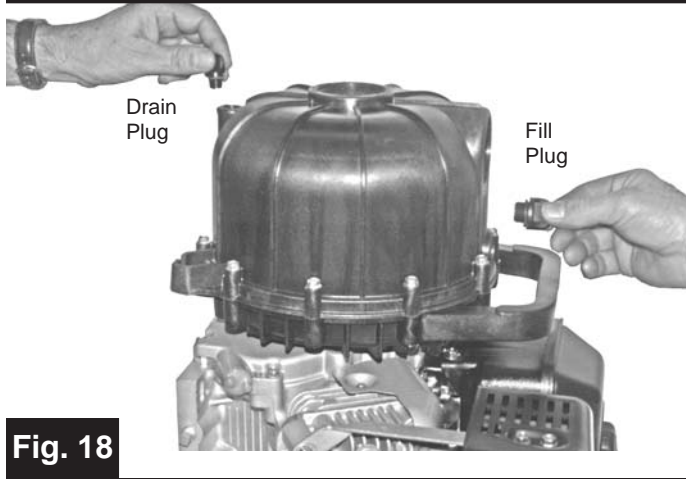

Fig. 18
15) Install the drain plug and filler plug (Fig. 18). Tighten only hand tight. **DO NOT USE A WRENCH.**